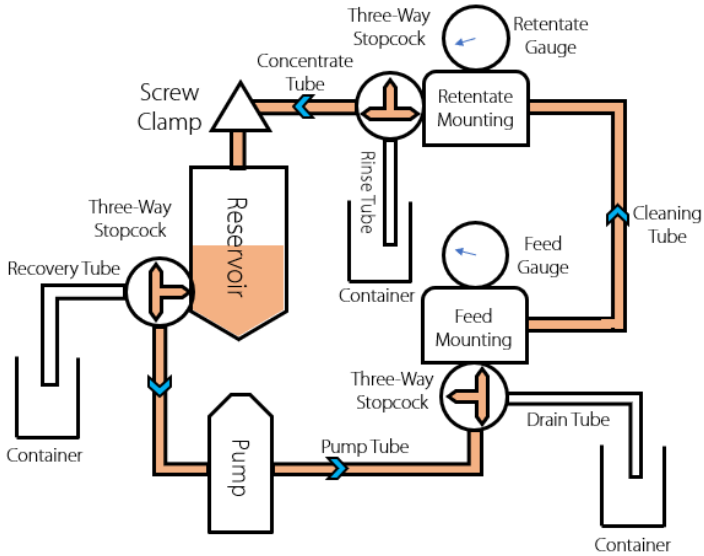

Figure 1
- Please clean the system with the following steps before first use. Use the cleaning tubing to connect the feed and retentate gauge mounting blocks, as shown in figure 1.
- Set the three-way stopcocks and adjust the flow path as shown in figure 1.
(2) Draining and Collection